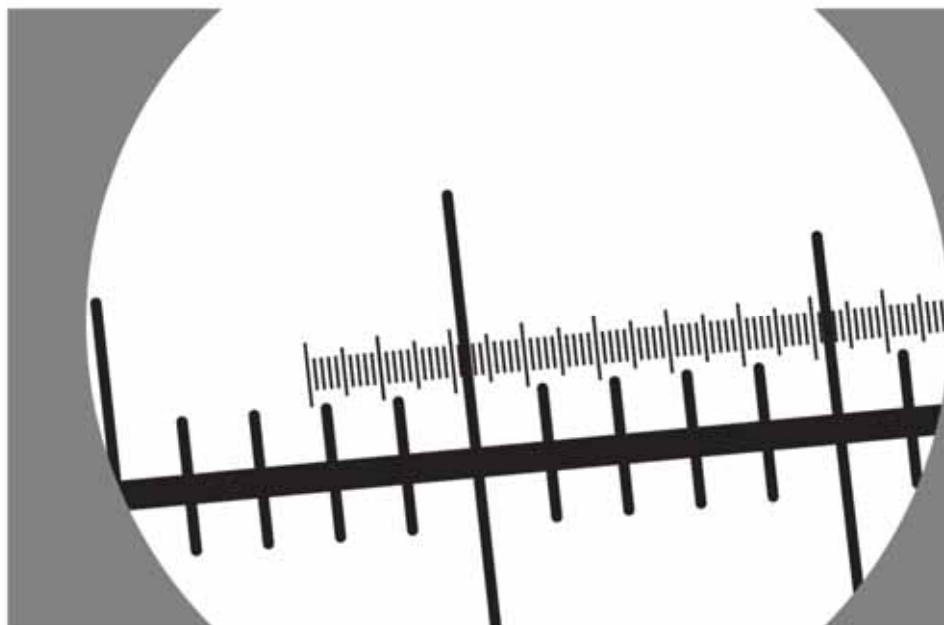

Fig. 2.1
Fig. 2.1 shows a diagram of a stage micrometer scale that is being used to calibrate an eyepiece graticule.
- (b) (i)** Using this stage micrometer, where one division is **0.1 mm**, calculate the actual length of one eyepiece graticule unit using Fig. 2.1 by completing the steps below: